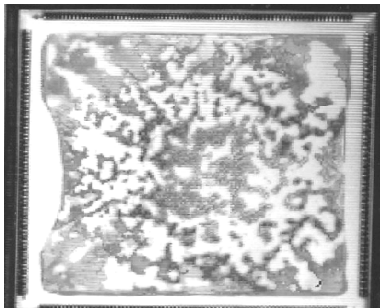

Figure 7 - Poor adhesion coverage (White areas). The ability to withstand thermal & physical stress is questionable.
7. Adhesion (encapsulant-to-die/leadframe) (FIGURE 7)